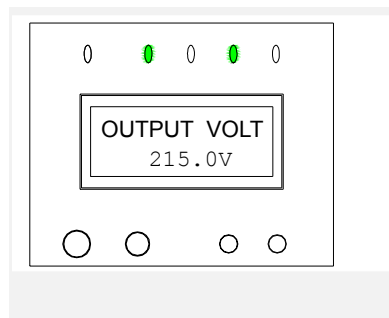

Figure 3-11
1. When the system has Utility input and the Utility is normal, press and hold the OFF button for about 1 second, then a beep is heard, the inverter indicator goes off and the bypass indicator turns on, as shown in Fig. 3-11, indicating the UPS has transferred to Bypass mode.